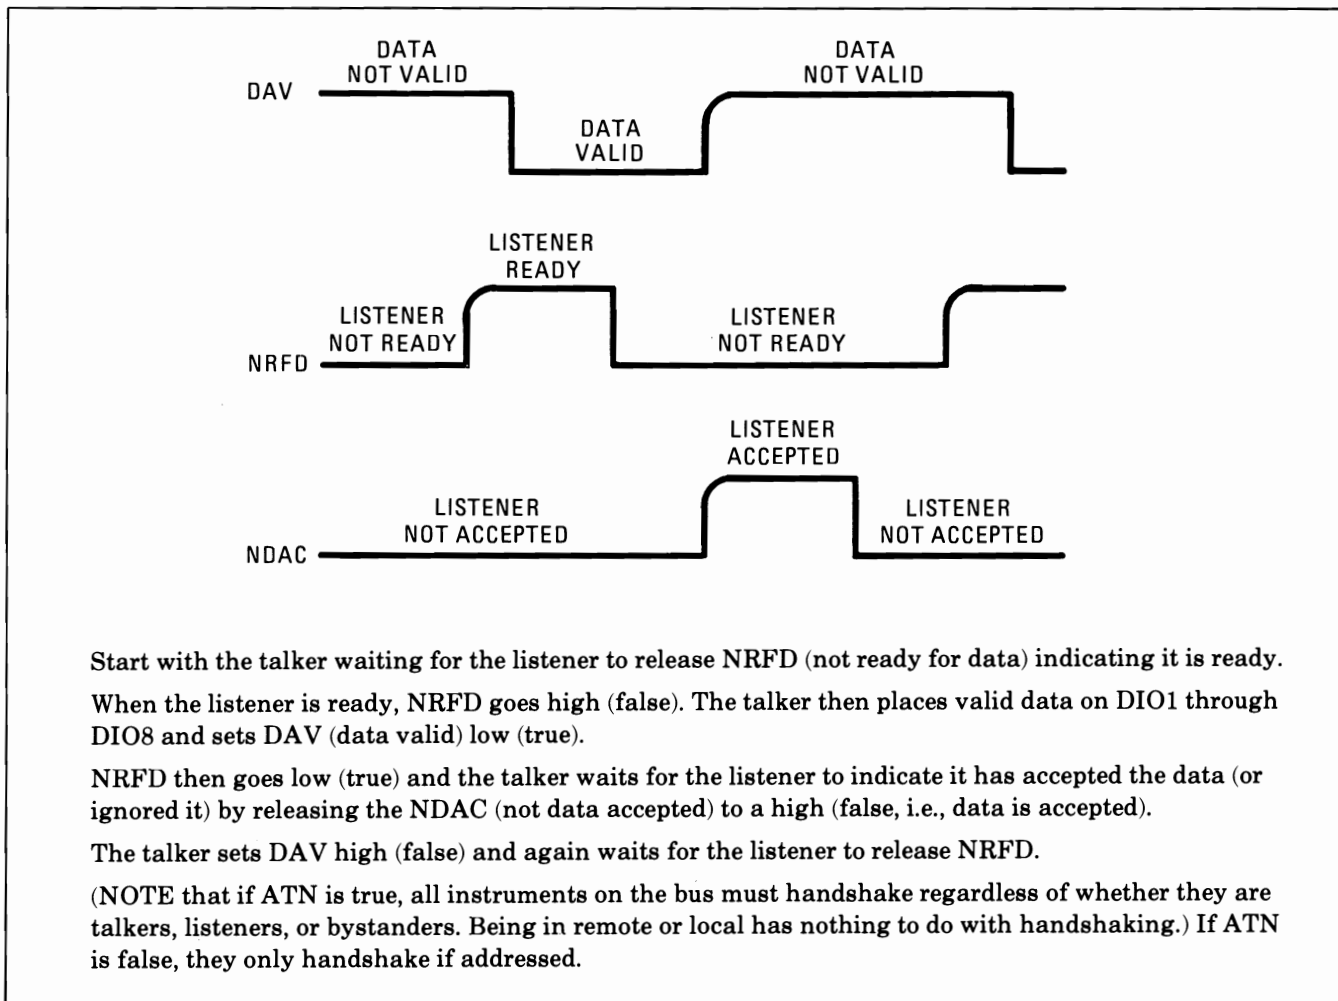

Figure 8-110. Simplified HP-IB Handshake
When using the flowcharts, refer to the principles of operation to clarify the sequence of troubleshooting. Refer to Figure 8-110 for an explanation of the HP-IB handshake. If replacement of a probably defective part does not correct the Remote Interface problem, check any related circuits that are connected to the faulty area. For example, some bus controllers simultaneously function as both talker and listener. As a result, they may mask a failure of the Remote Interface handshaking capabilities. This can happen when either the NRFD or NDAC output driver on the bus fails in a high state. This type of failure is a very subtle problem. The quickest way to determine what is happening is to monitor the driver outputs while activating both output levels of the individual drivers.
9. See Figure 8-110 for a simplified explanation of the HP-IB Handshake.